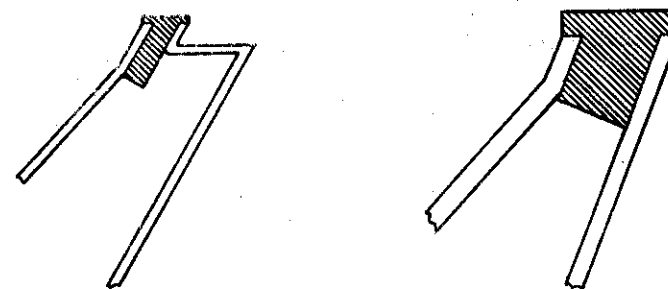

Fig. 3
3. Using a pair of long-nosed pliers, fit the wedge into the outlet such that the sides of the outlet are held apart and the shoulders of the wedge sit on the edges of the ducting as shown in Figures 3 and 4.